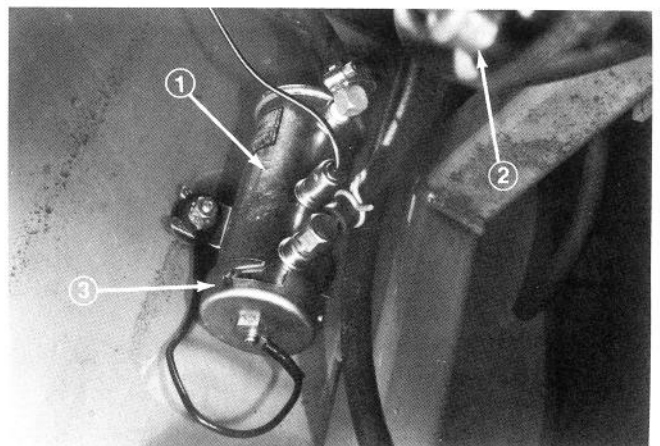
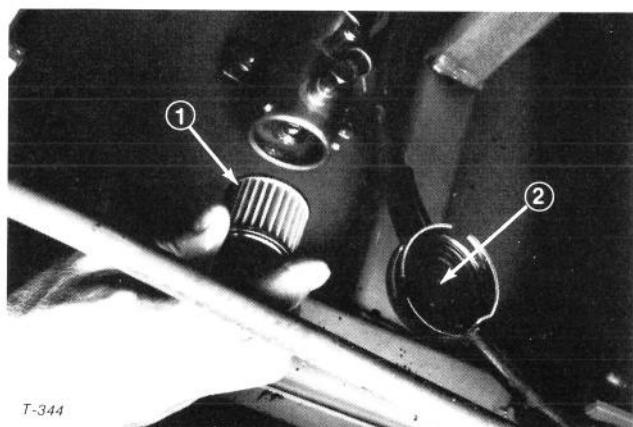

Figure 47
Figure 48
1. Fuel pump is located on inner frame bulkhead to left of drive coupling assembly (Fig. 47).
3. Place a drain pan under fuel pump and remove cover from fuel pump with 17 mm wrench (Fig. 47). Take care not to damage wire while removing cover.
4. Pull filter out of pump body (Fig. 48).
6. Clean magnet of any residue (Fig. 48), insert filter into body and install cover (Fig. 47).